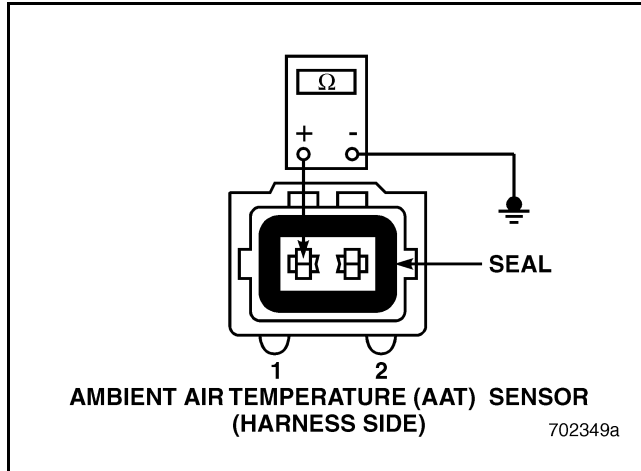

Figure 75
4. Check for continuity between pin 1 of the AAT Sensor harness connector and a good ground (see Figure 75).